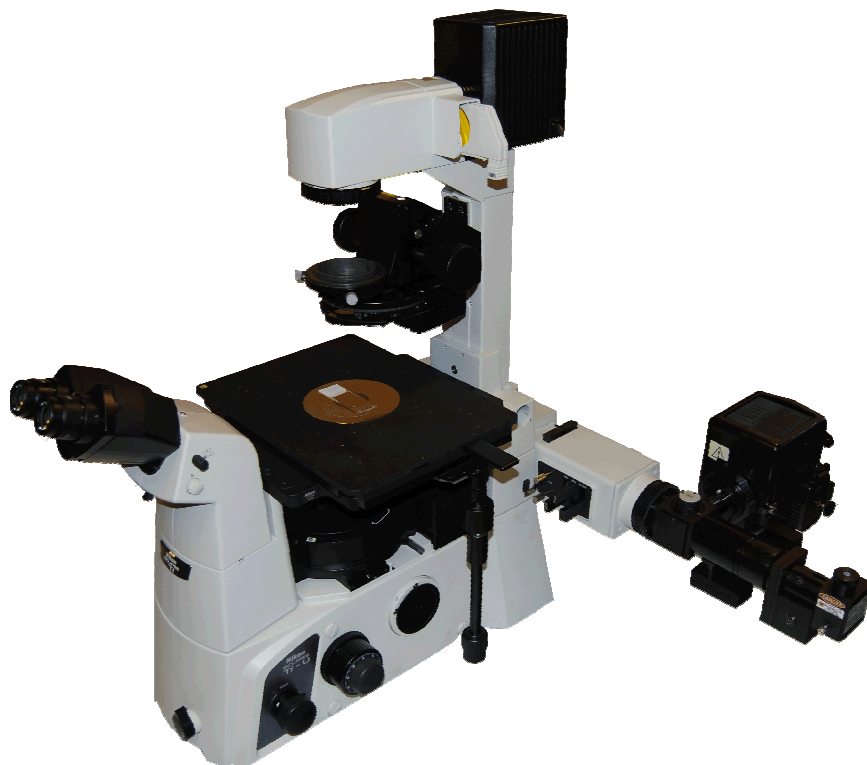

Figure 3-12: Attaching the **MICROPOINT Laser System** to the Microscope
- a) Attach the **MICROPOINT** Laser System to the Microscope fluorescence lamp house port. A typical installation is shown in Figure 3-12.